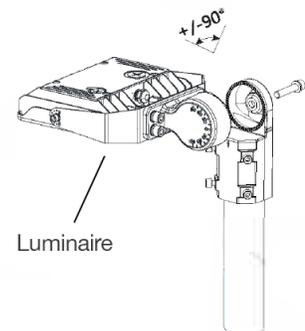

Fig. 2.3
5. Loosen the bolt and adjust the mount angle as desired and tighten the bolt to lock into place (Fig. 2.3).